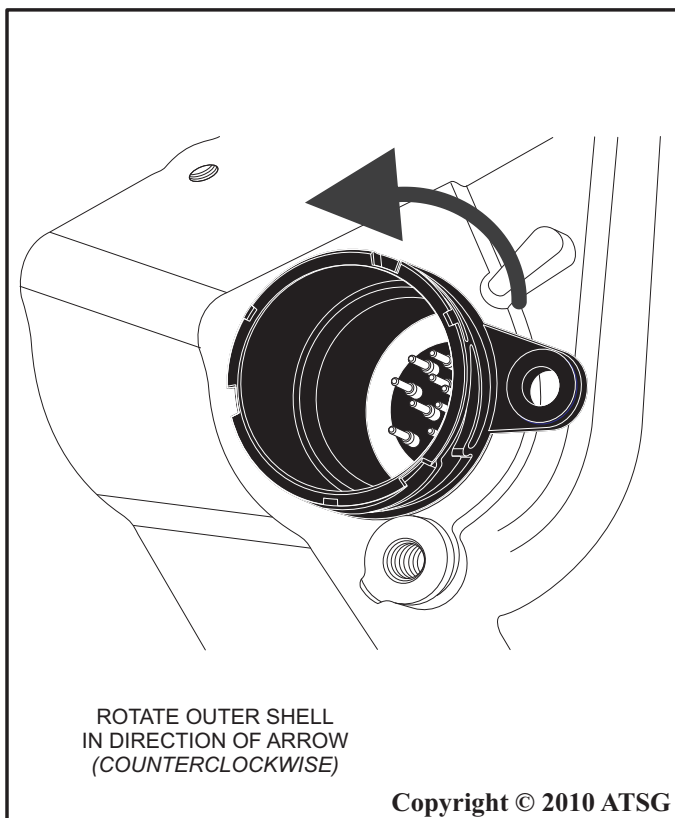

Figure 4
6. Rotate the outer shell in the direction of the arrow to unlock it from the mechatronic unit assembly as shown in figure 4.